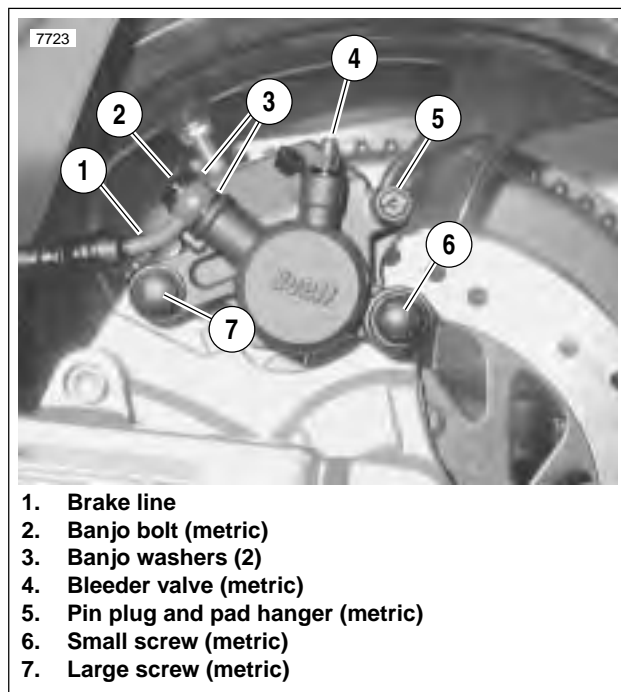

Figure 2-54. Rear Brake Caliper (Typical)
2. See Figure 2-54. Remove banjo bolt (2) (metric) and two banjo washers (3) to disconnect brake line (1) from caliper. Discard banjo washers.
3. Remove small screw (6) (metric) and large screw (7) (metric) to detach caliper from mount.
1. See Figure 2-54. Remove pin plug and pad hanger (5) (metric) to free brake pads.